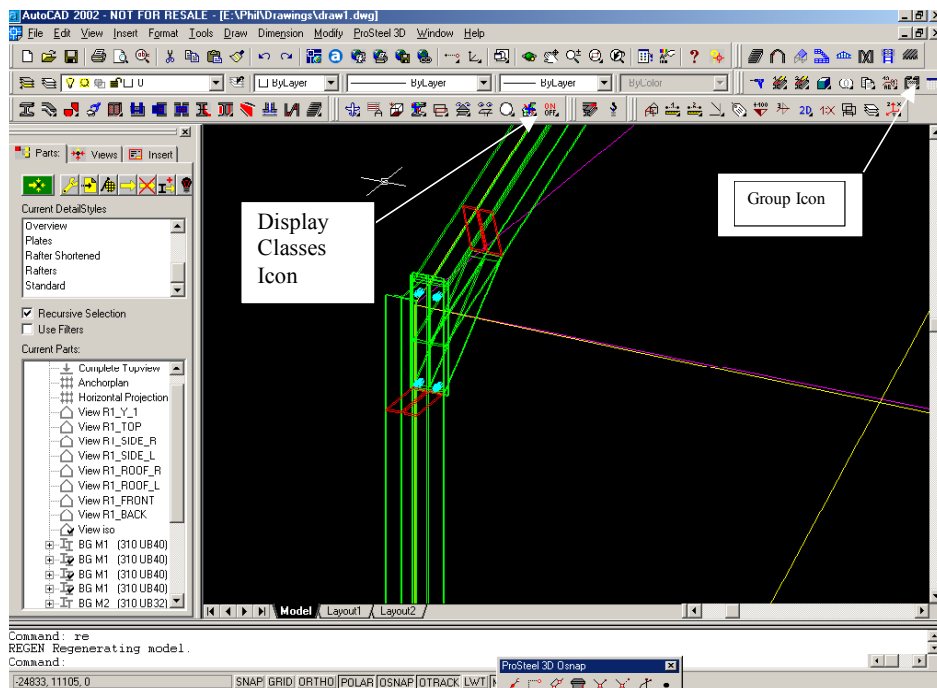

Fig 11
- A display class allows you to group individual groups providing “*Complete Groups*” is ticked on. The icon for display classes is the Icon that says On/Off as in Fig 11. It will allow you to put all your columns in one Class and all your rafters in another etc. You do this by double clicking in the “*class name*” area on one of the blank lines and typing in the new class name, then whilst highlighted assign the members to the class. You can then turn them off at your will by clicking and highlighting the Class and then clicking “*hide class*”. *Tip* under the same Icon on the Fly out is a yellow icon called hide except. This will hide everything except for the items chosen and hide except groups will do the same but will leave the whole group that you selected.